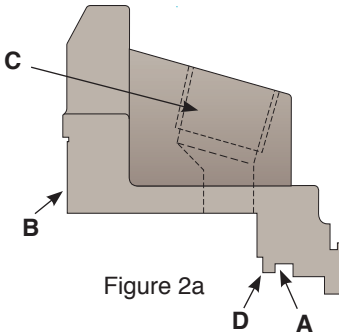

Figure 2a
4.1 **Outer gland assembly** [11.1] see Figures 2a and 2b.